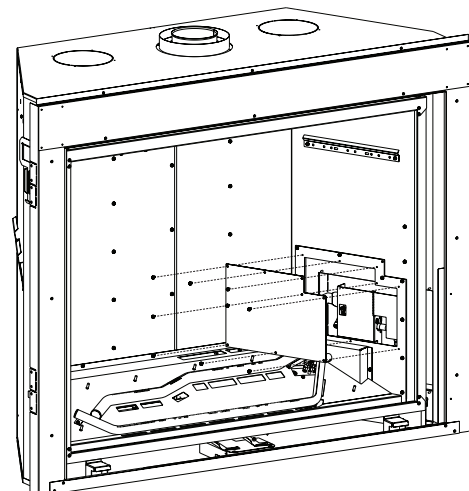

Figure 101
5. Remove Access Panel. **See Figure 101.**